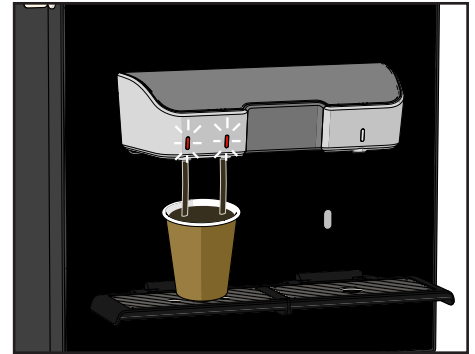

Figure 24.
4. Place a cup or glass under the pouring spout with the flashing light (see Figure 24).